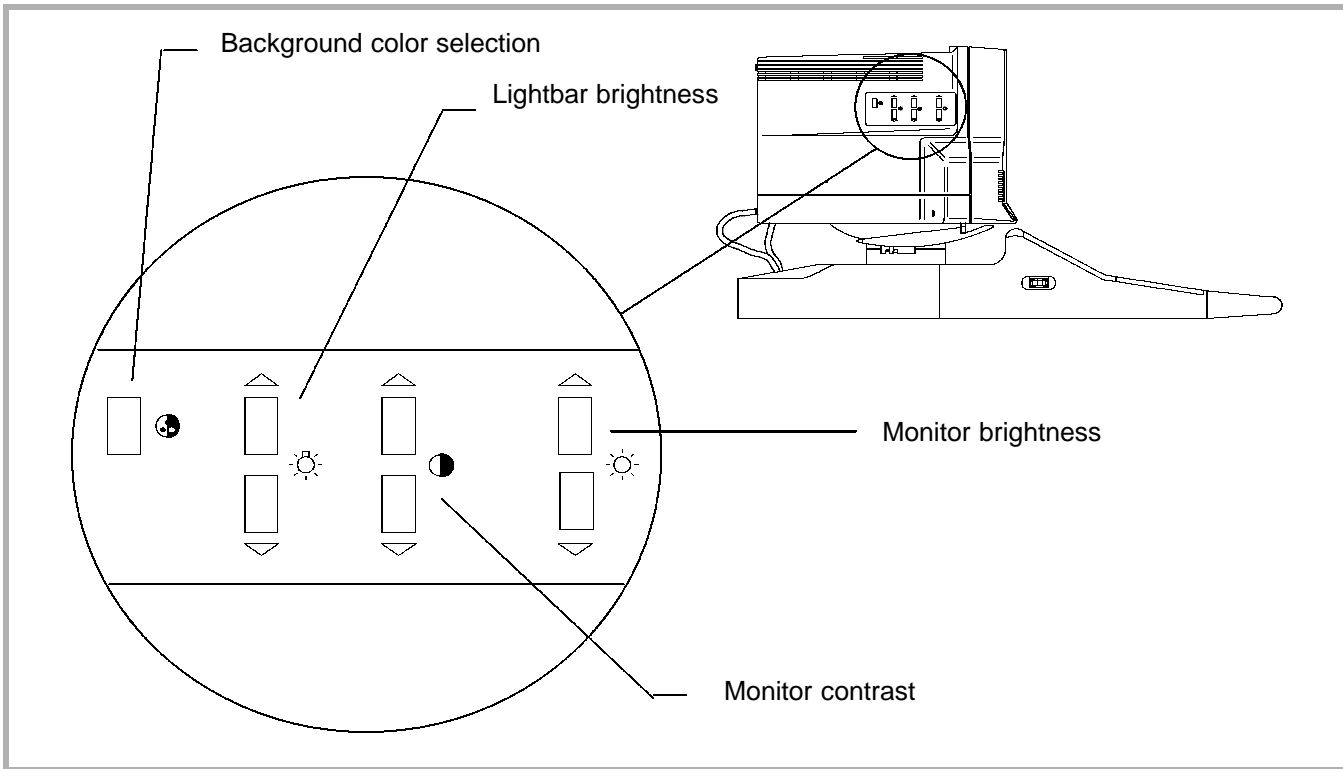

Figure 7-1. Monitor Control Locations
Monitor field adjustments include contrast, brightness, color background, and lightbar brightness (**Figure 7-1**). The adjustments can be set to factory default settings or to any setting desired by the user.
1. Refer to the control locations in **Figure 7-1** and adjust the contrast, brightness, color background, and lightbar brightness to the control settings desired by the user.